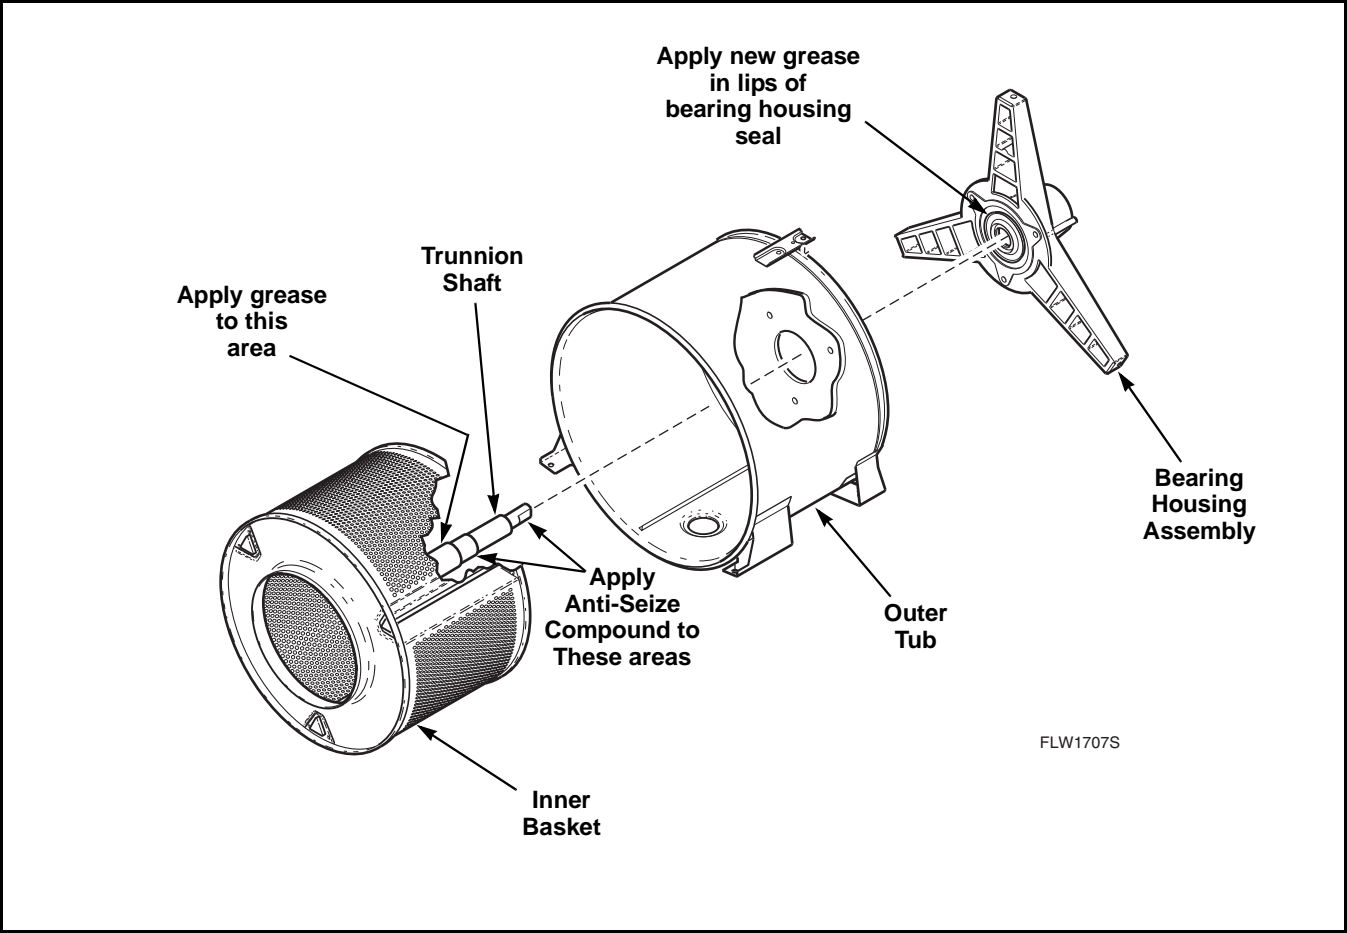

Figure 50
- Apply No. 27604P Anti-Seize Compound to the area of the trunnion shaft that will be contacting the front and rear bearings. Refer to *Figure 50*.
- Apply a film of grease to area of shaft that will be contacting the bearing housing seal. Refer to *Figure 50*. Make sure seal lips also are packed with grease. Refer to *Figure 50*.
- a. Apply No. 27604P Anti-Seize Compound to the area of the trunnion shaft that will be contacting the front and rear bearings. Refer to *Figure 50*.
- b. Apply a film of grease to area of shaft that will be contacting the bearing housing seal. Refer to *Figure 50*. Make sure seal lips also are packed with grease. Refer to *Figure 50*.